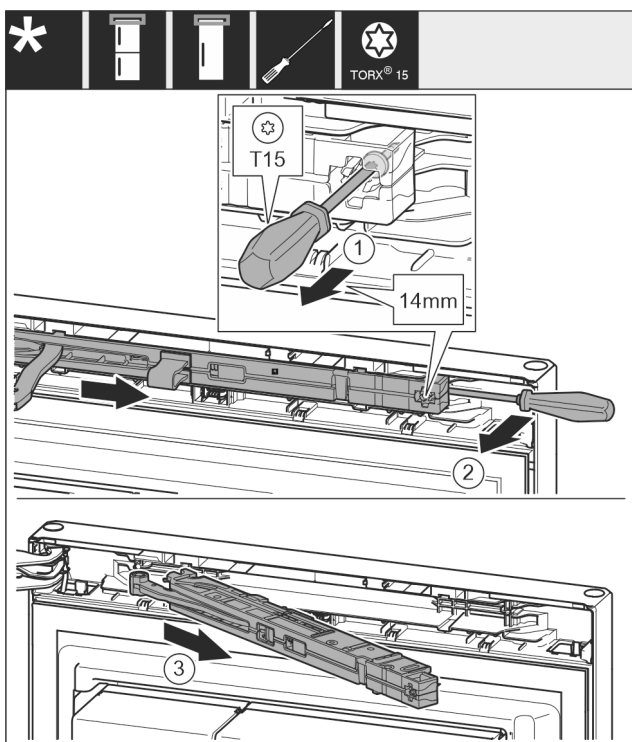

Fig. 10
- Undo the soft stop unit screw with a T15 screwdriver approx. 14 mm. *Fig. 10 (1)*
- Insert a screwdriver behind the soft stop mechanism on the handle side and rotate it forwards. *Fig. 10 (2)*
- Pull out the soft stop unit. *Fig. 10 (3)*